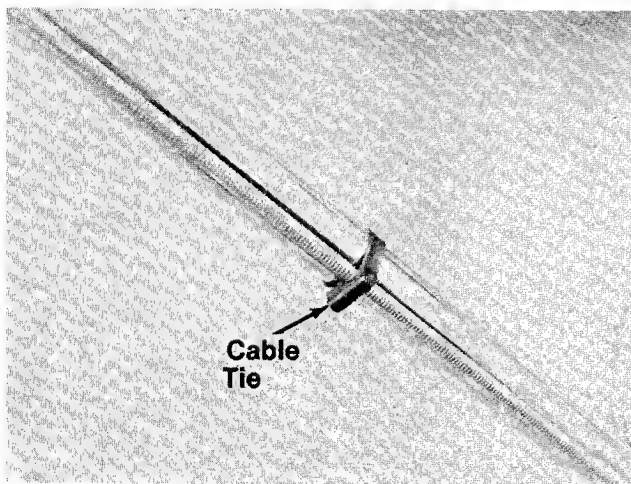

FIGURE 5.
6. Secure throttle control wire to upper and lower handles with cable ties (J). See figure 5.